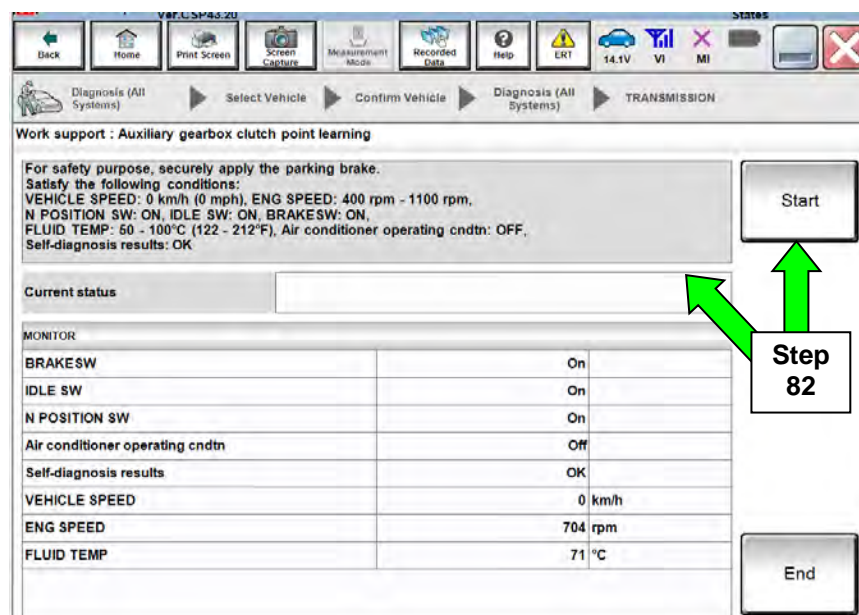

Figure 43
82. Follow the on-screen instructions in Figure 43 and then select **Start**.